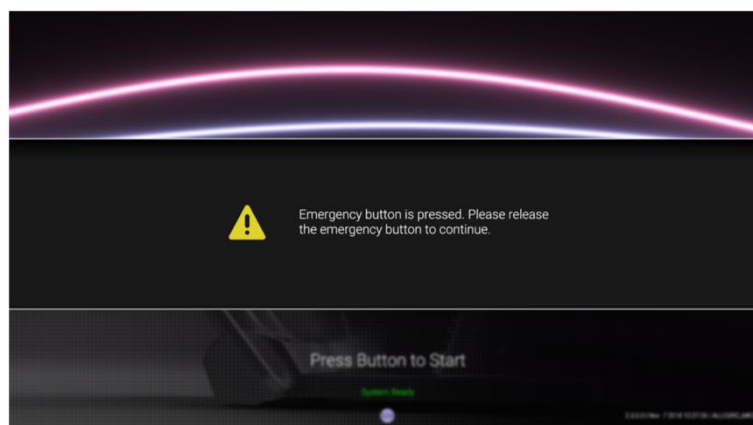

**Figure 47:** Pop-up message indicating that the emergency button is pressed.
6. If the emergency stop button is pressed neither seat nor pedals will move and a pop-up message appears (Fig. 47).